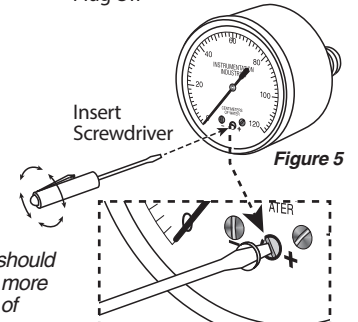

Figure 5
2. Insert a small, **Flathead Screwdriver Blade** into the set screw located at the 6 o'clock position. (Figure 5)
3. Turn the **Screw** in the direction that allows the **Needle** to move the shortest distance back to zero. (Figure 5)